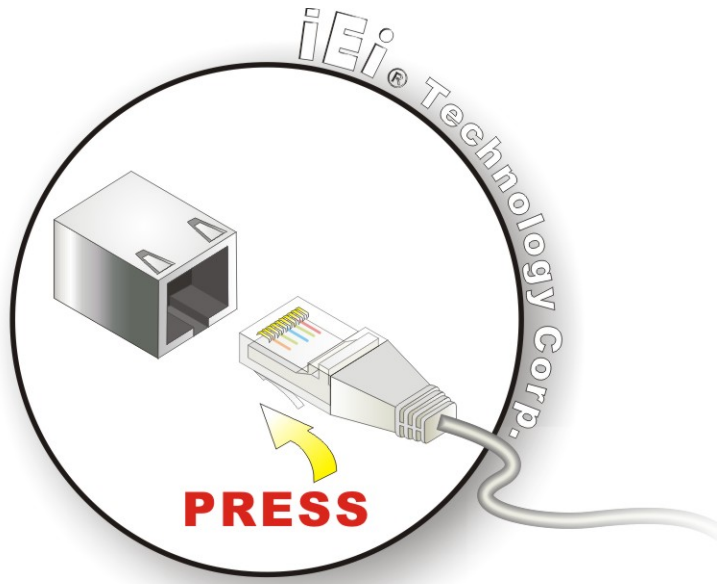

Figure 5-15: LAN Connection
Step 2: Align the connectors. Align the RJ-45 connector on the LAN cable with one of the RJ-45 connectors on the KINO-761AM2. See **Figure 5-15**.